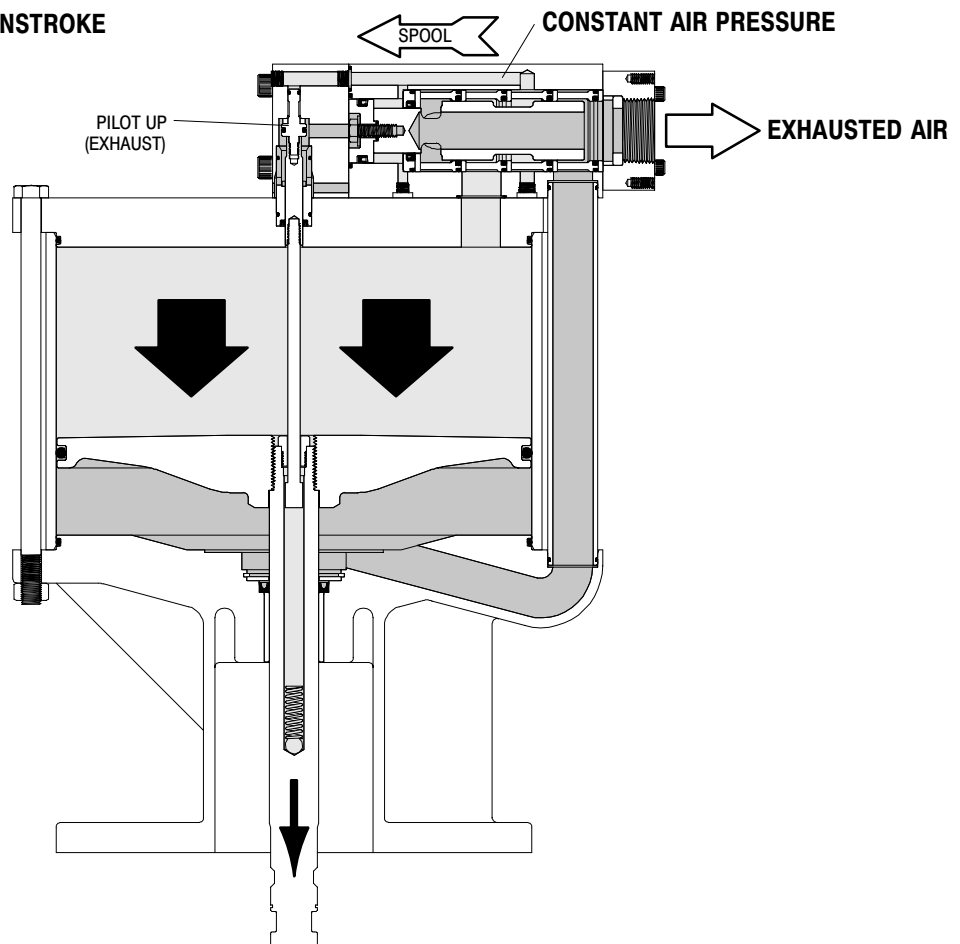

FIGURE 2
- Using e-ring pliers, slide the “e” ring up far enough to allow the sleeve to move upward and release the two connectors (figure 2).